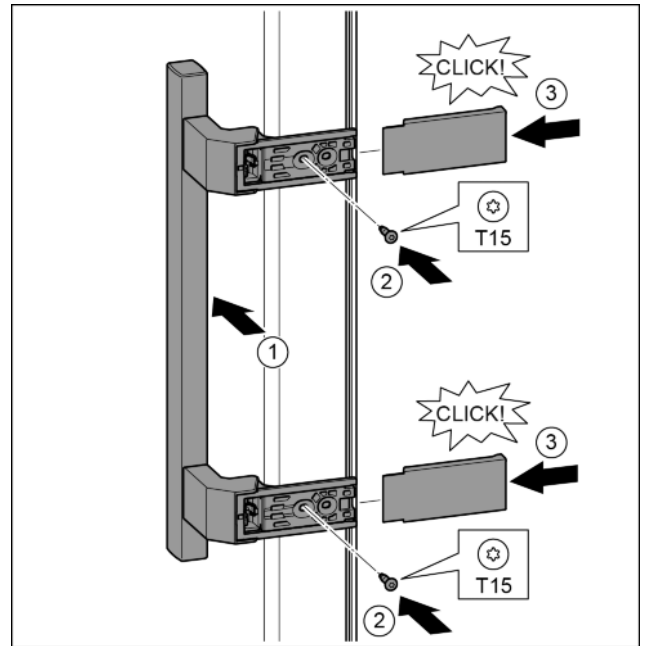

Fig. 21
- ▶ Position the handle on the other side. Fig. 21 (1)
- ▶ Tighten the screws with the T15 screwdriver. Fig. 21 (2)
- ▶ Position the covers on the side and push in. Fig. 21 (3)